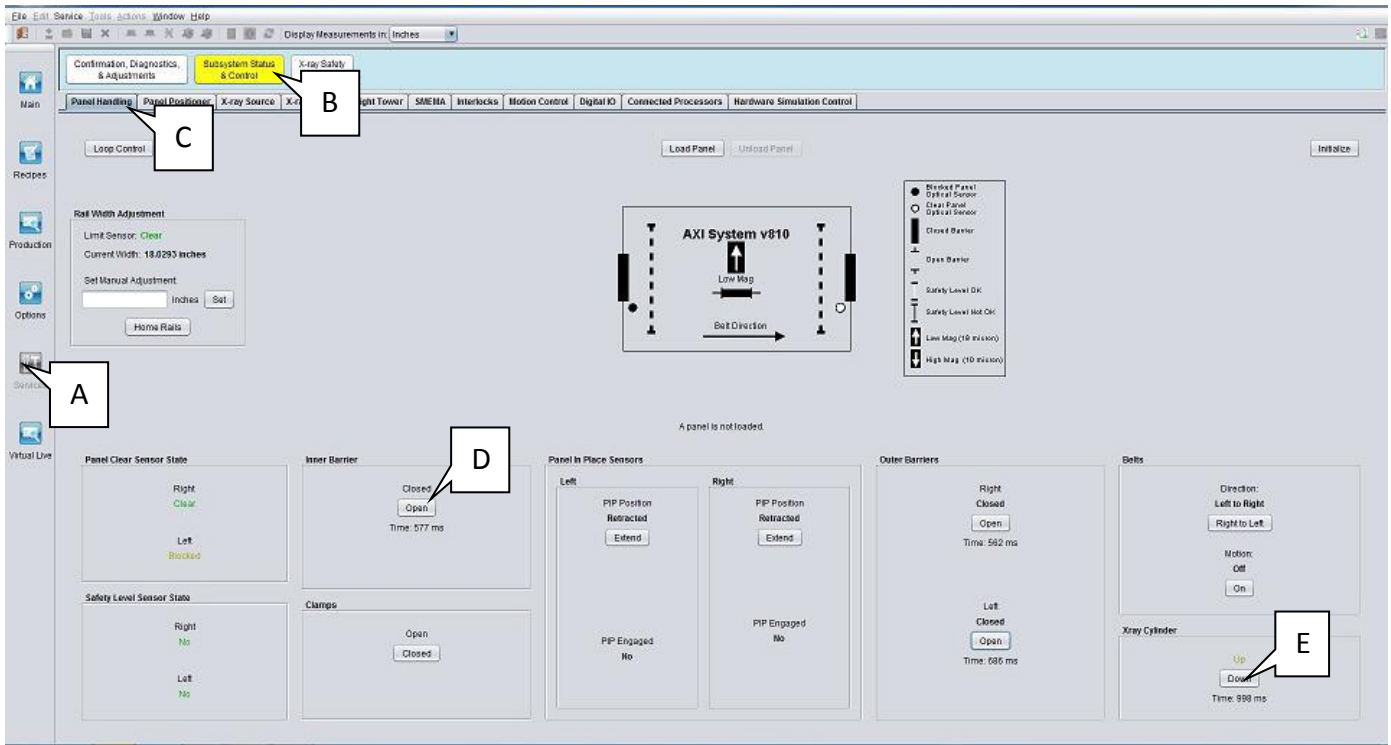

Figure 30
37. Go to Panel Handling tab, trigger tube cylinder to “Up” position as Figure 30.